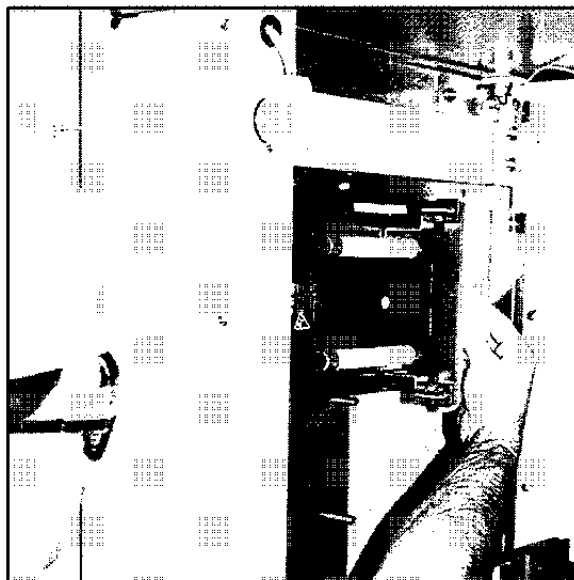

Fig. 60 Inspect Control Power Transformer
- Wipe off the surface of the control power transformer. (Fig. 60)